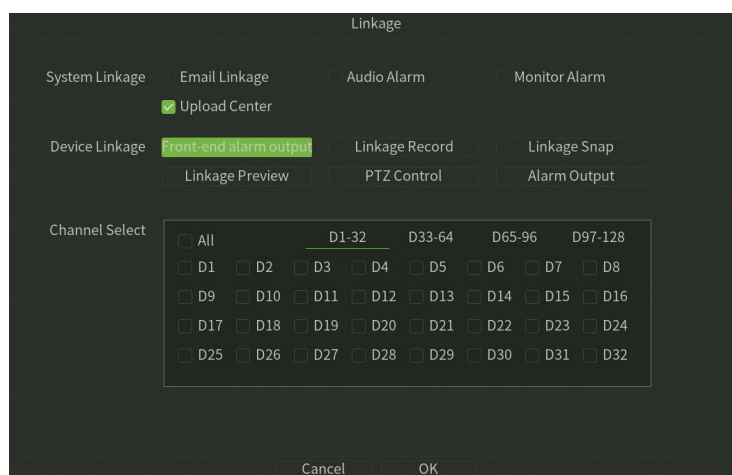

Figure 7.4 Linkage
12. **Linkage:** Click Linkage button, Setup the linkage operation of the function, as shown in figure 7.4.